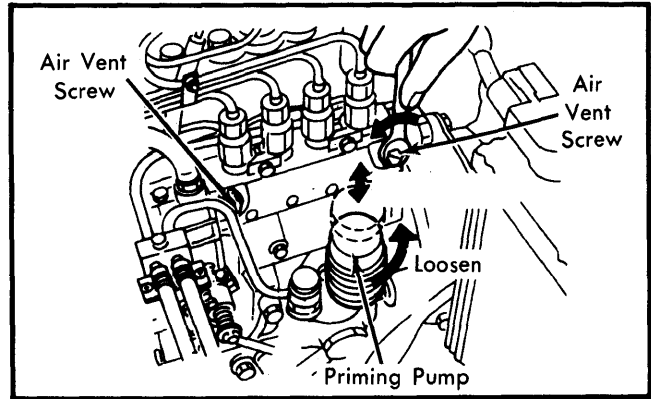

Fig. 13 Bleeding Fuel System
2) Bleed fuel system. Remove priming pump cap cover. Loosen air vent screws and turn priming pump counterclockwise to release. Operate priming pump until all air is purged from air vents. Tighten air vent screws. Push down on pump and turn clockwise to lock. Install cap cover. See Fig. 13.